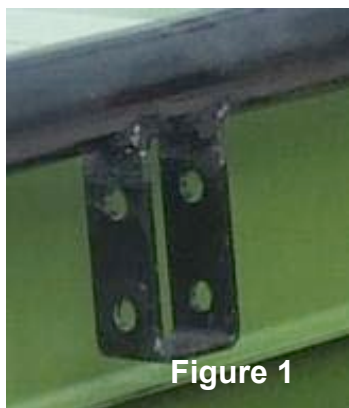

Figure 1
1. Locate the handle-mounting bracket on the generator frame. (Located on the top right side when looking at the control panel of the generator, Figure 1). Attached the handle by placing the handle around the outside of the handle-mounting bracket, and aligning the bottom set of holes. Insert a bolt (M8*50) through home on the frame and the handle-mounting bracket, and secure with a nut (M8) and washer.